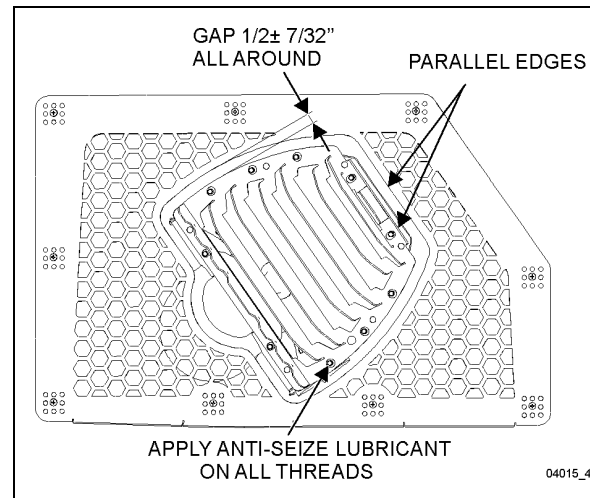

FIGURE 7: DIFFUSER POSITION ADJUSTMENT
- For proper angular position, make sure that the two edges shown on figure 7 are parallel with each other.